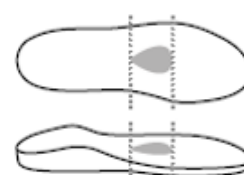

Fig. 4: Retrocapital teardrop shaped pad
- Retrocapital pad in drop shape (Fig. 4)